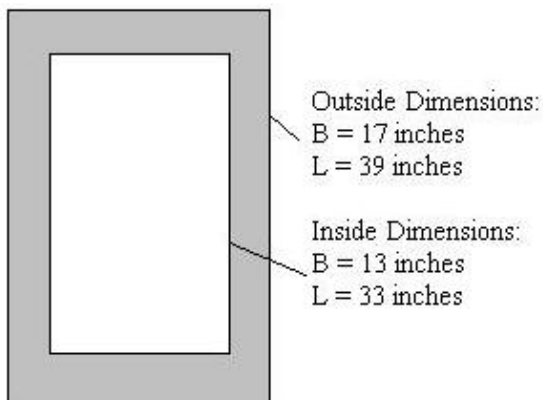

Figure 3: Cross-sectional area.
3. **Part 1: Calculate the compressive force for the cross-sectional area shown in Figure 3. The original length of the member was 100-in long. After applying the compressive force, the member was 99-in long. The modulus of elasticity for the material used in the cross section is 10,000 lb/in2. Use the following equations along with those in #2 and #3 to complete the problem. Show your work and calculations.**
**Part 2: Calculate the tension force for the cross-sectional area shown in Figure 3. The original length of the member was 100-in long. After applying the tensile force, the member was 103-in long. The modulus of elasticity for the material used in the cross section is the same as in #2 above. Use the following equations along with those in #2 and #3 to complete the problem. Show your work and calculations.**